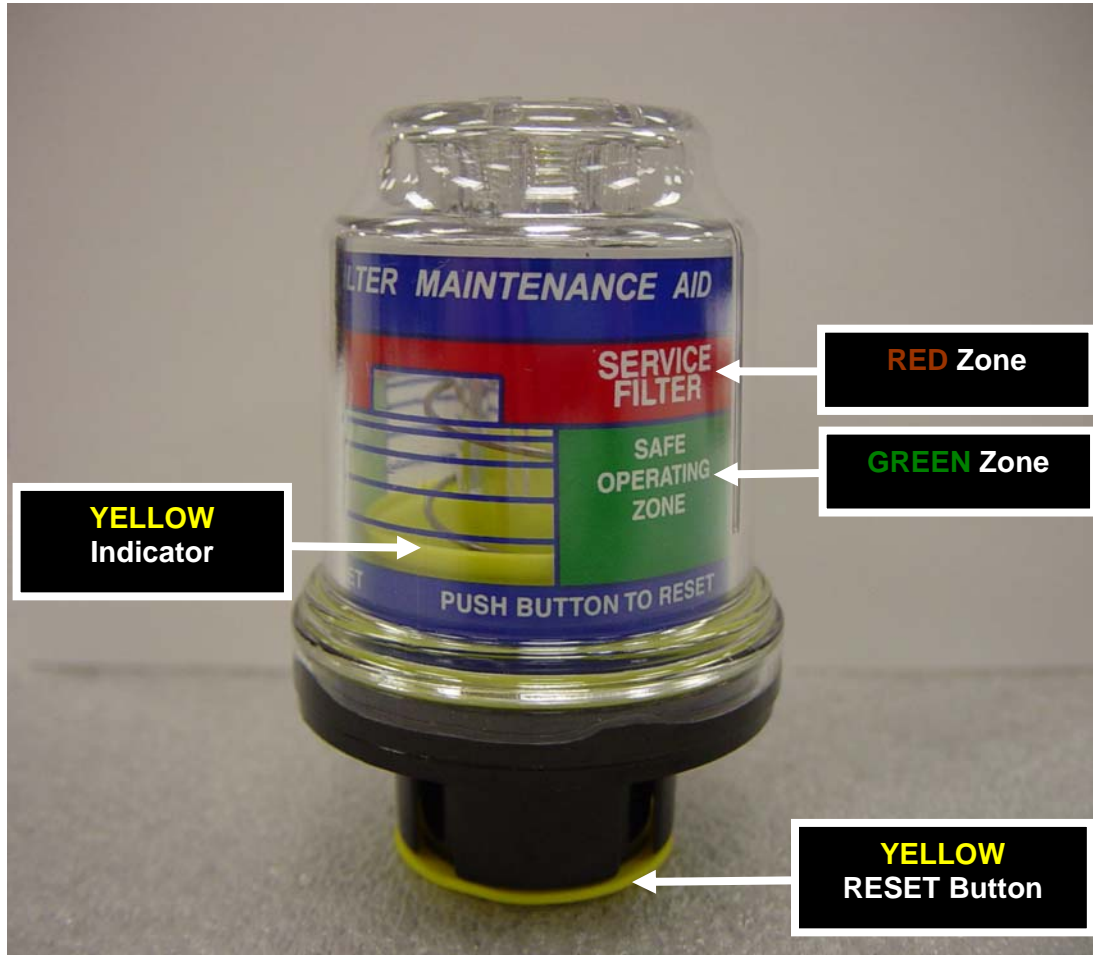

Figure 3-1: FILTER MAINTENANCE AID (FMA)
- f. A Filter Maintenance Aid (FMA) for each inlet is mounted at the aft end of the rear upper cowling and displays the maximum differential pressure across the filter reached since it was last reset, generally during the last flight. The FMA is only accessible through the access door on the ground, providing the pilot or mechanic the ability to visually gauge the current condition of the filters. This gives the mechanic the ability to forecast when servicing of the filters will be required. FMA can be reset by depressing the yellow button marked “PUSH TO RESET” located on one end of the Filter Maintenance Aid (See Figure 3-1).
FMA CHECK: The FMA check is performed to ascertain the current condition of the filter (i.e. how dirty the filter is now) or to trend the change in differential pressure across the filter (i.e. how rapidly the filter is approaching the service limit). The FMA check is only a check of the indicator reading (See Figure 3-1). As such it is not considered an inspection of the FMA. The inspection Table 3-1 does not require a specific “inspection” interval of the FMA. The condition of the filter assembly and its accumulation of dirt will show up as an indication on the FMA. Operational environment more so than time-in-service dictate how often the FMA should be checked in order to help determine the next filter assembly service requirement. It is an aid in scheduling servicing of the filter assembly. At any time prior to an FMA indication in the “RED” (See Figure 3-1), failed PAC, or steady illumination of the “FILTER” indication on the cockpit indicator/switch, when maintenance or flight personnel judge it is warranted, the filter may be serviced or replaced. For example servicing of the filter may be warranted based on trend data and the fact that the aircraft will be operated in a remote or off-site location without the ability to readily service the filter. See Section 7.2 for a further description of the use of the FMA as it relates to the filter assembly service interval and Section 7.3 for filter servicing procedures.
The Filter Maintenance Aid is designed to hold the highest differential pressure across the filter assembly reached since it was last reset (usually during the last flight), and should be reset after servicing of the filter assembly by depressing the yellow button marked “PUSH TO RESET” located on the end of the filter maintenance aid (See Figure 3-1).